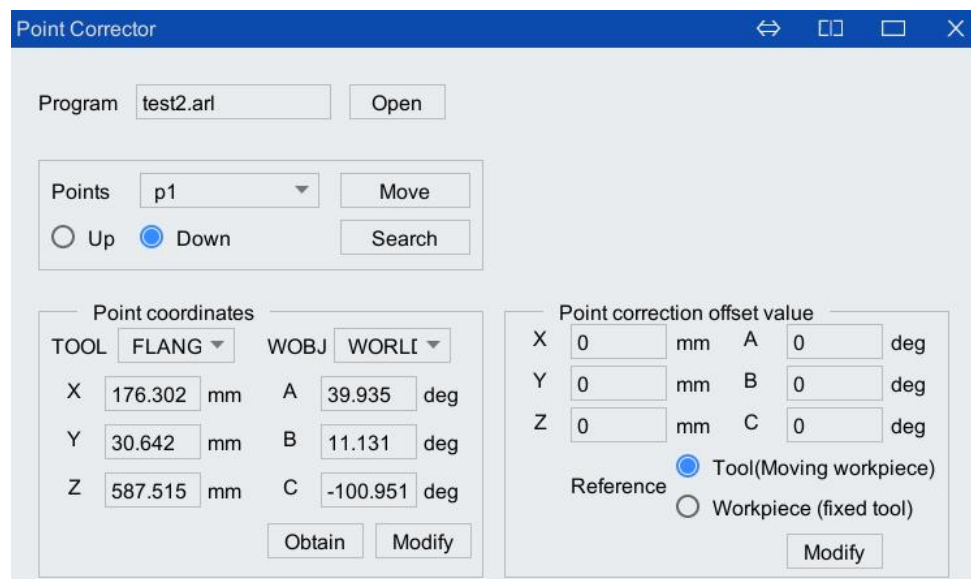

Figure 5-96 Modify the point coordinates through the "Point Correction Offset Value" area box
- Step5.** You can also modify the current point data in the "Point Correction Offset Value" area box. Select the reference coordinate system of the current point offset. If the "Workobject (fixed tool)" option is checked, it means that the current point is offset relative to the workobject coordinate system. The offset value only supports the input of position data XYZ, as shown in Figure 5-96 shown.
Step1. Select the point you want to move to in "Points" in Figure 5-96.